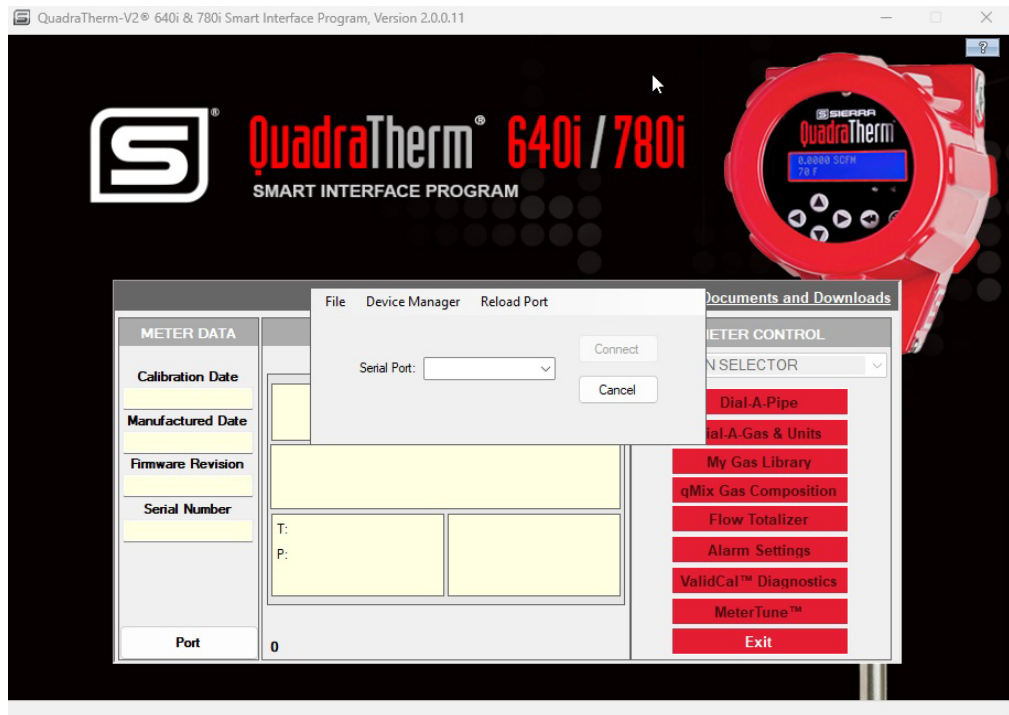

Figure 3. Select Com Meter Port to Use qMix
4. Open the SIP software on your computer and select “COM port” (See Figure 3 below).